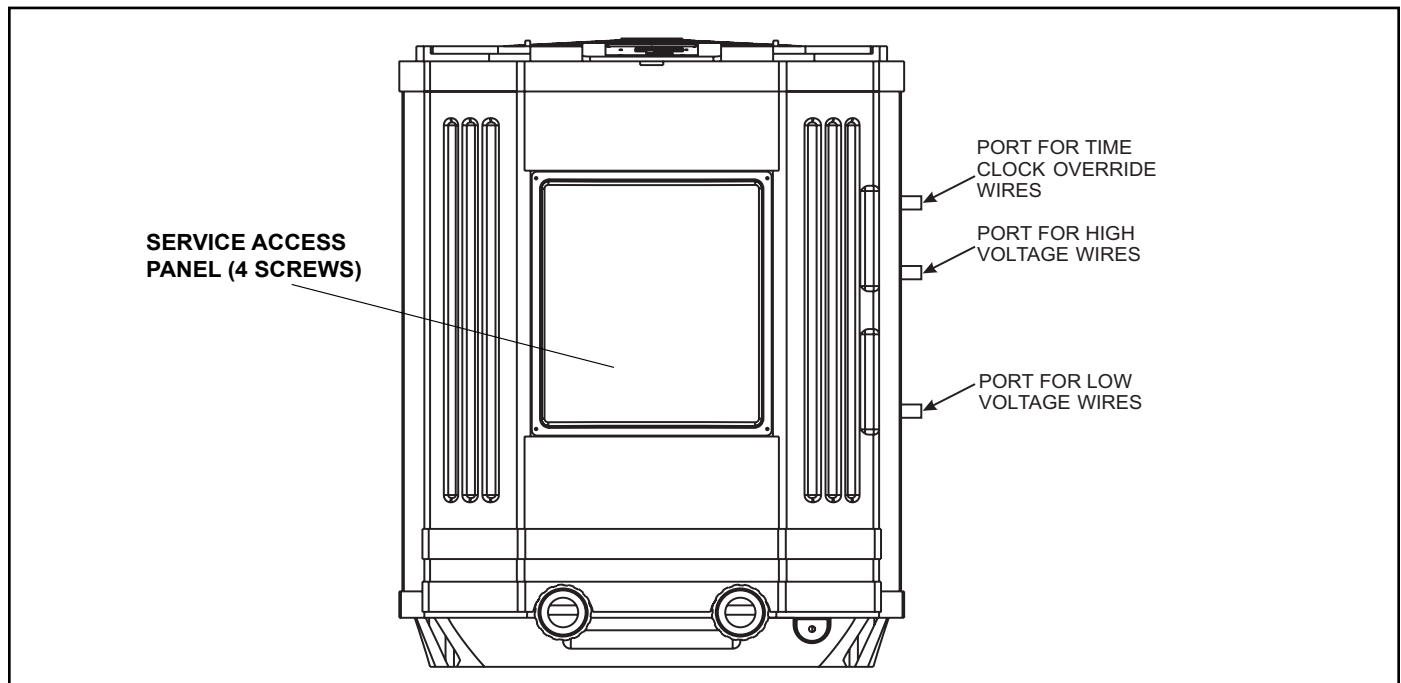

Figure 12. AE-Ti Heat Pump Front View
2. Remove the 4 screws that attach the service/access panel to the heat pump unit (see Figure 12).
4. Electrical supply lines must be run through watertight conduit. Run the wires and conduit from the power source and connect them to the conduit connection labeled “High Voltage Connection” on the right side of the heat pump. See Figure 12 for connection location.
2. Remove the 5 screws that attach the service/access panel to the heat pump unit (see Figure 12 on page 15). This will allow you to access the wires from the AE-Ti control panel for the remote control installation (see Figure 13).
3. Run the wires from the pool/spa control system into the conduit connection labeled “Low Voltage Connection”, located on the lower right hand side of the heat pump (see Figures 12 and 14).
**NOTE** One end of the wiring reserved to run into the conduit connection labeled "Low Voltage Connection", located on the lower right hand side of the heat pump (see Figures 12 and 14).